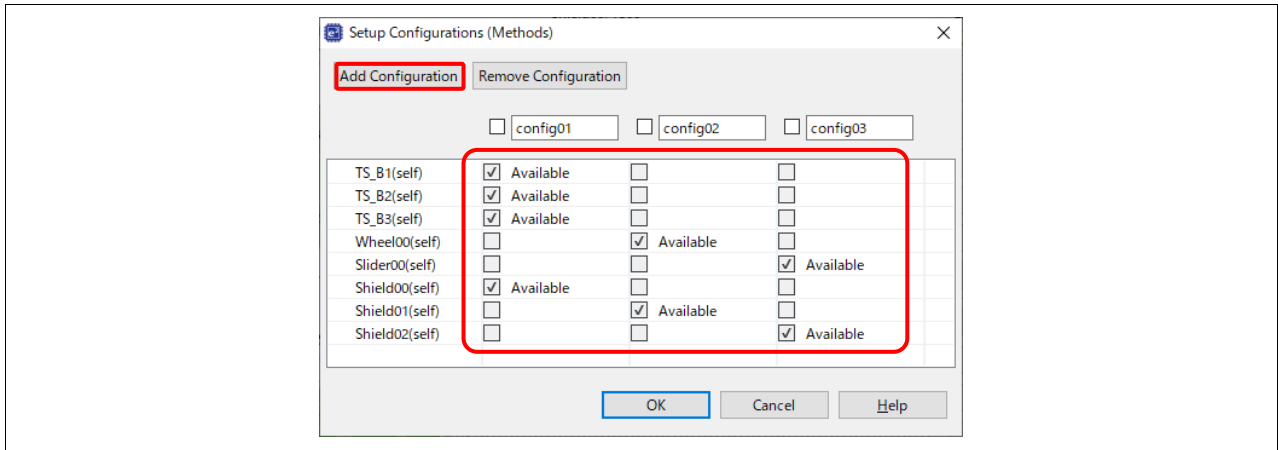

Figure 19. Setting Setup Configurations (Methods)
18. The following steps to configure like **Figure 19**.